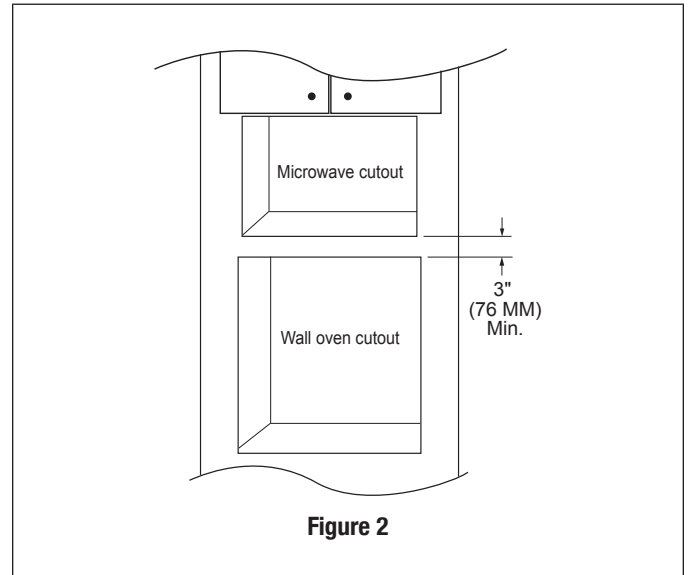

Figure 2
- Please allow minimum 3" (76 mm) wood gap between the microwave oven cutout and the appliance cutout below the microwave oven. See Figure 2.